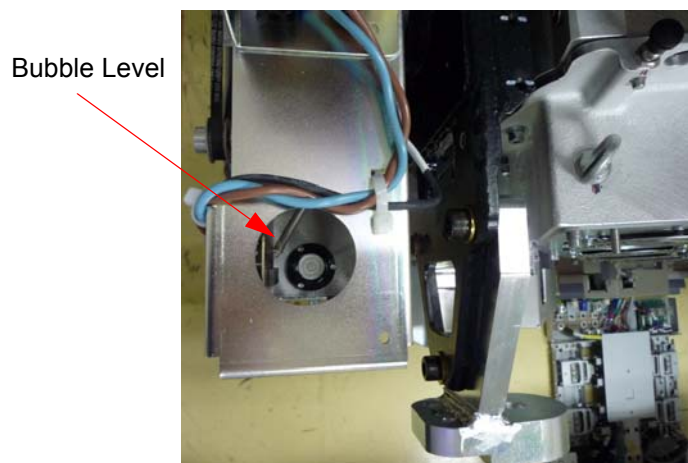
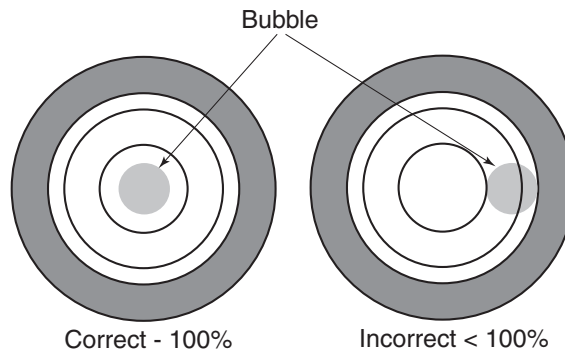

Figure 1-10 Gantry Bubble Level
Figure 1-12 Bubble Level Centering
Bubble levels are located on both ends of the gantry stationary base. They're located on the stationary base near a point where the rotating structure pivots mount to the base structure. (See Figure 1-10.) The gantry is properly leveled when the bubble is centered. (See Figure 1-12, on page 45.)
- 3.) When the bubble levels are centered (Figure 1-12), each of the four (4) leveling pads should be carrying a portion of the gantry weight. Distribution of the gantry weight prevents the base frame from rocking during normal operation. **DO NOT leave any adjuster un-loaded or floating.**